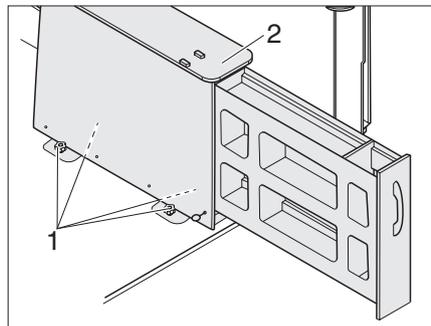

Fig. 55 Remove rear drawer
- ▶ Loosen 4 star knob screws (Fig. 55,1) and remove the body (Fig. 55,2) of the rear drawer.